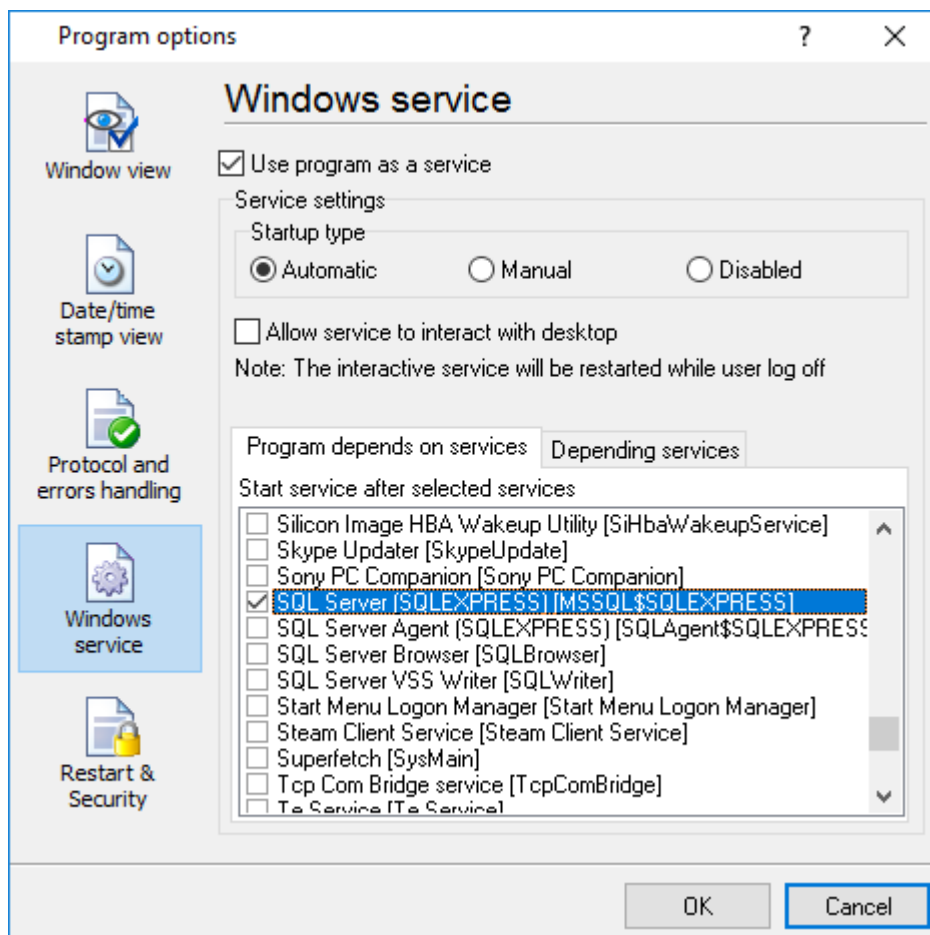

Fig. 6.4.1 Service settings
If you want to use the program as a service application, then, please, go to the "Options -> Program options -> Windows service" tab (fig. 6.4.1), then enable the "Use program as a service" checkbox. Later, please, specify the start-up type of the service. There are the following variants:
2. **Manual** - you can start the service application from the "Services" control panel (fig. 6.4.1).